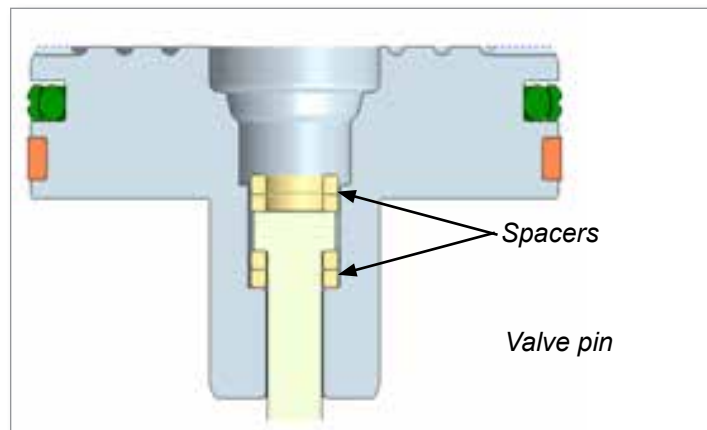

Figure 4-12 Install valve pin and spacers
4. Install the remaining two valve pin spacers (thickness = 2.0 mm and 2.3 mm) on top of the valve pin. See Figure 4-12.